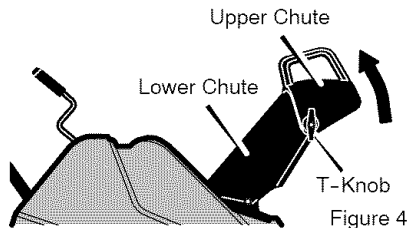

Figure 4
1. Remove the **T-knob** and bolt on the **upper chute** (Figure 4).